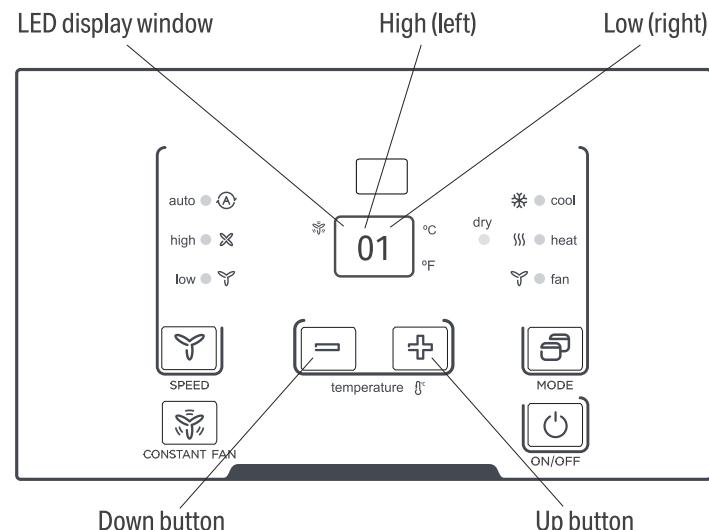

Fig.4
- Press the up and down buttons together for 3 seconds to activate the dip switches configurations by panel control (see Fig.4).
- Display function settings with 2 digits in LED display window, high (left) for dip switches, low (right) for functions (see Fig.4).